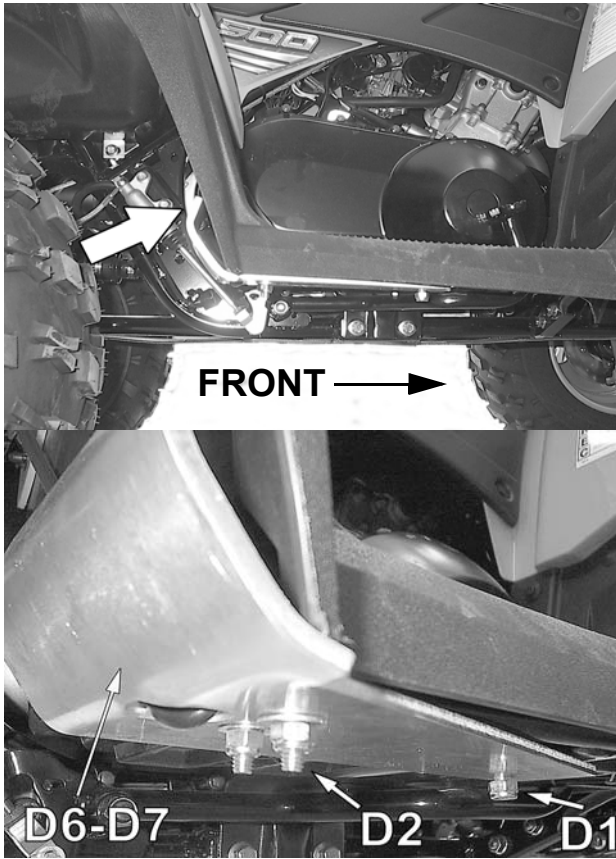

Fig. 22
4. Install footrest protectors (D6-D7). Use the fasteners provided: U-bolt (D2) with washers (D3) and nuts (D4), and M8 bolt (D1) with nut (D5). See Fig. 22